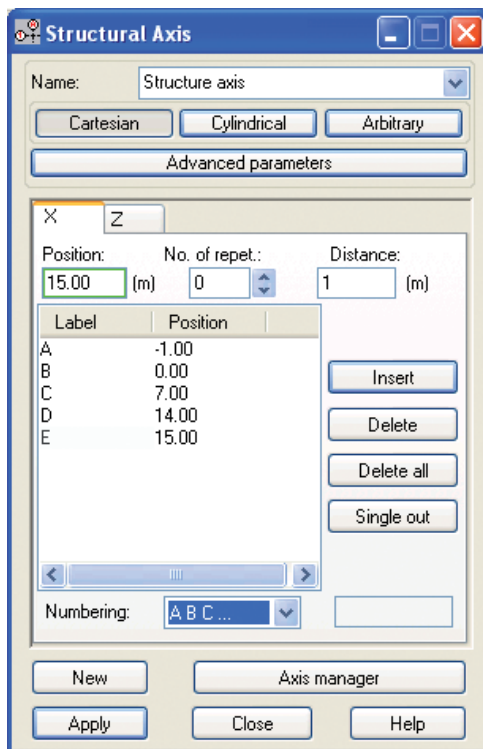

Figure 2 - Definition of structural axis in X direction.
2. On the **X** tab in the **Position** field type **-1** and press **Insert** button, in the same way enter following axis coordinates as shown below (Figure 2):